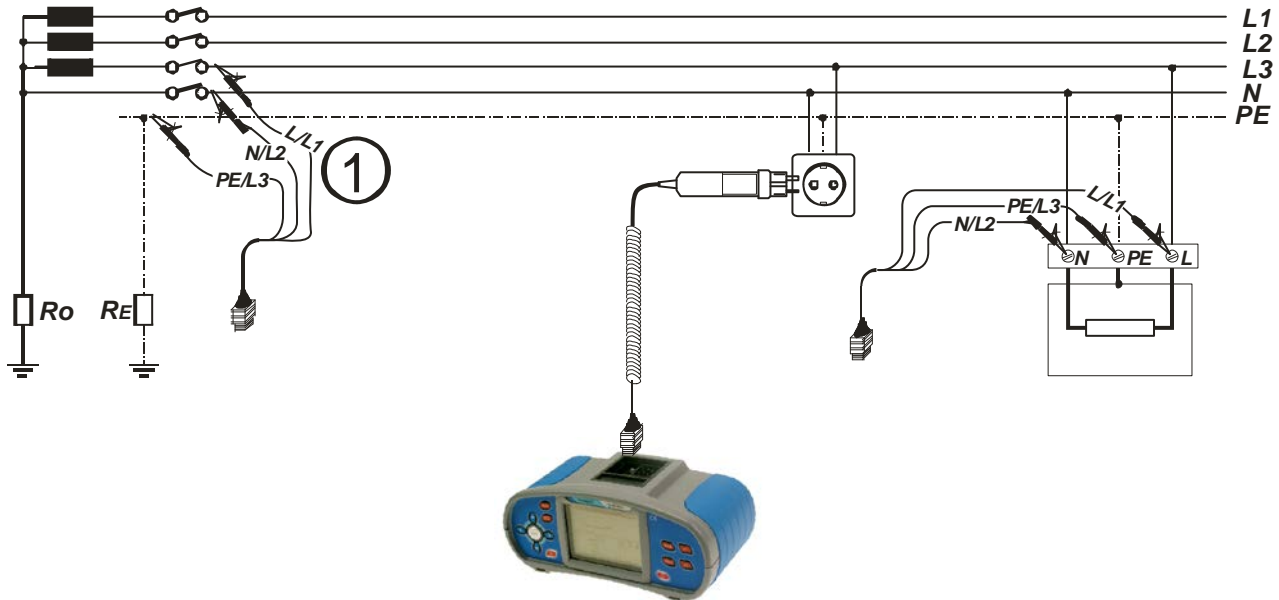

Figure G.6: Connection for reference (1) and socket measurements
- Connect** test leads to the tested socket (see figure G.6).